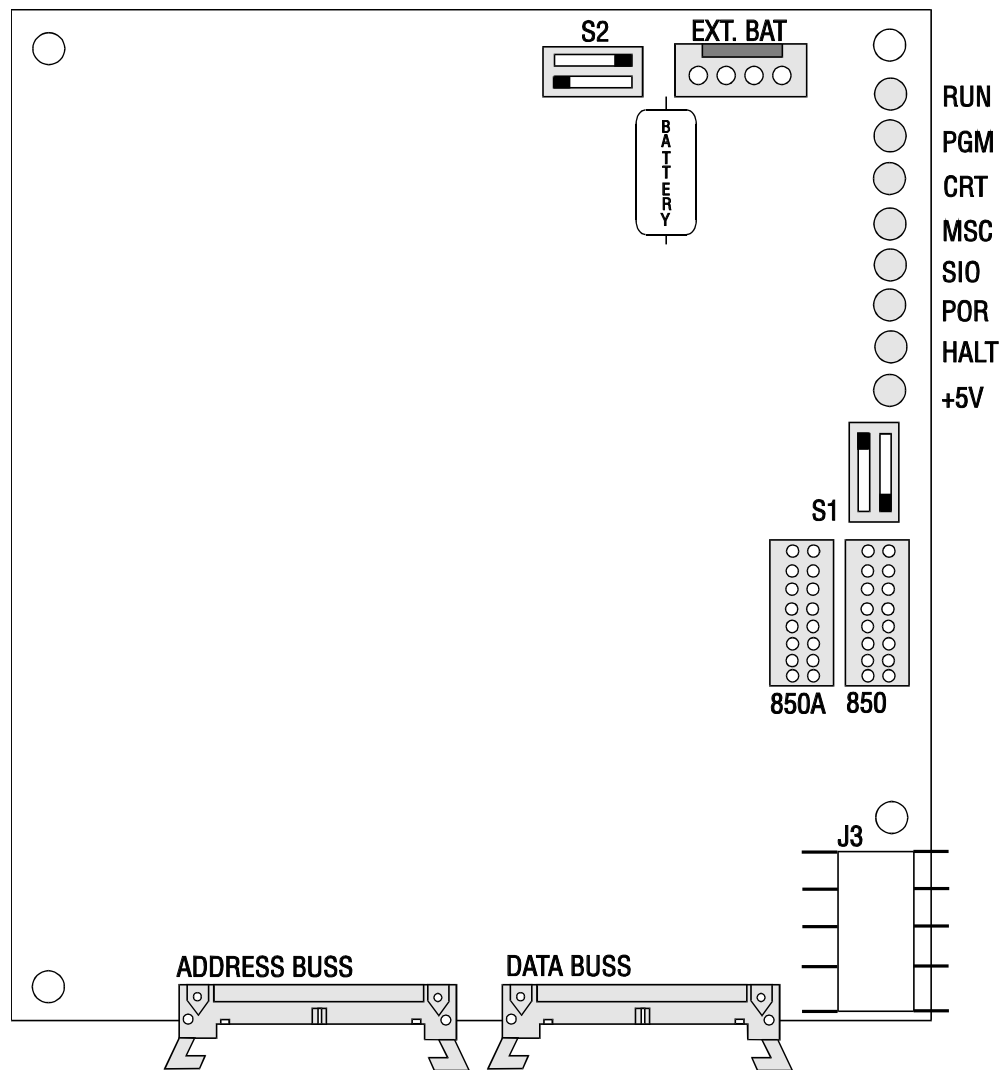

Fig. 3-2 Video board.
9. Disconnect all leads to the Video (VIDEO2) board. Ensure all cables are properly labeled for reconnecting later. Fig. 3-2 shows all cable numbers and the locations on the VIDEO2 board.